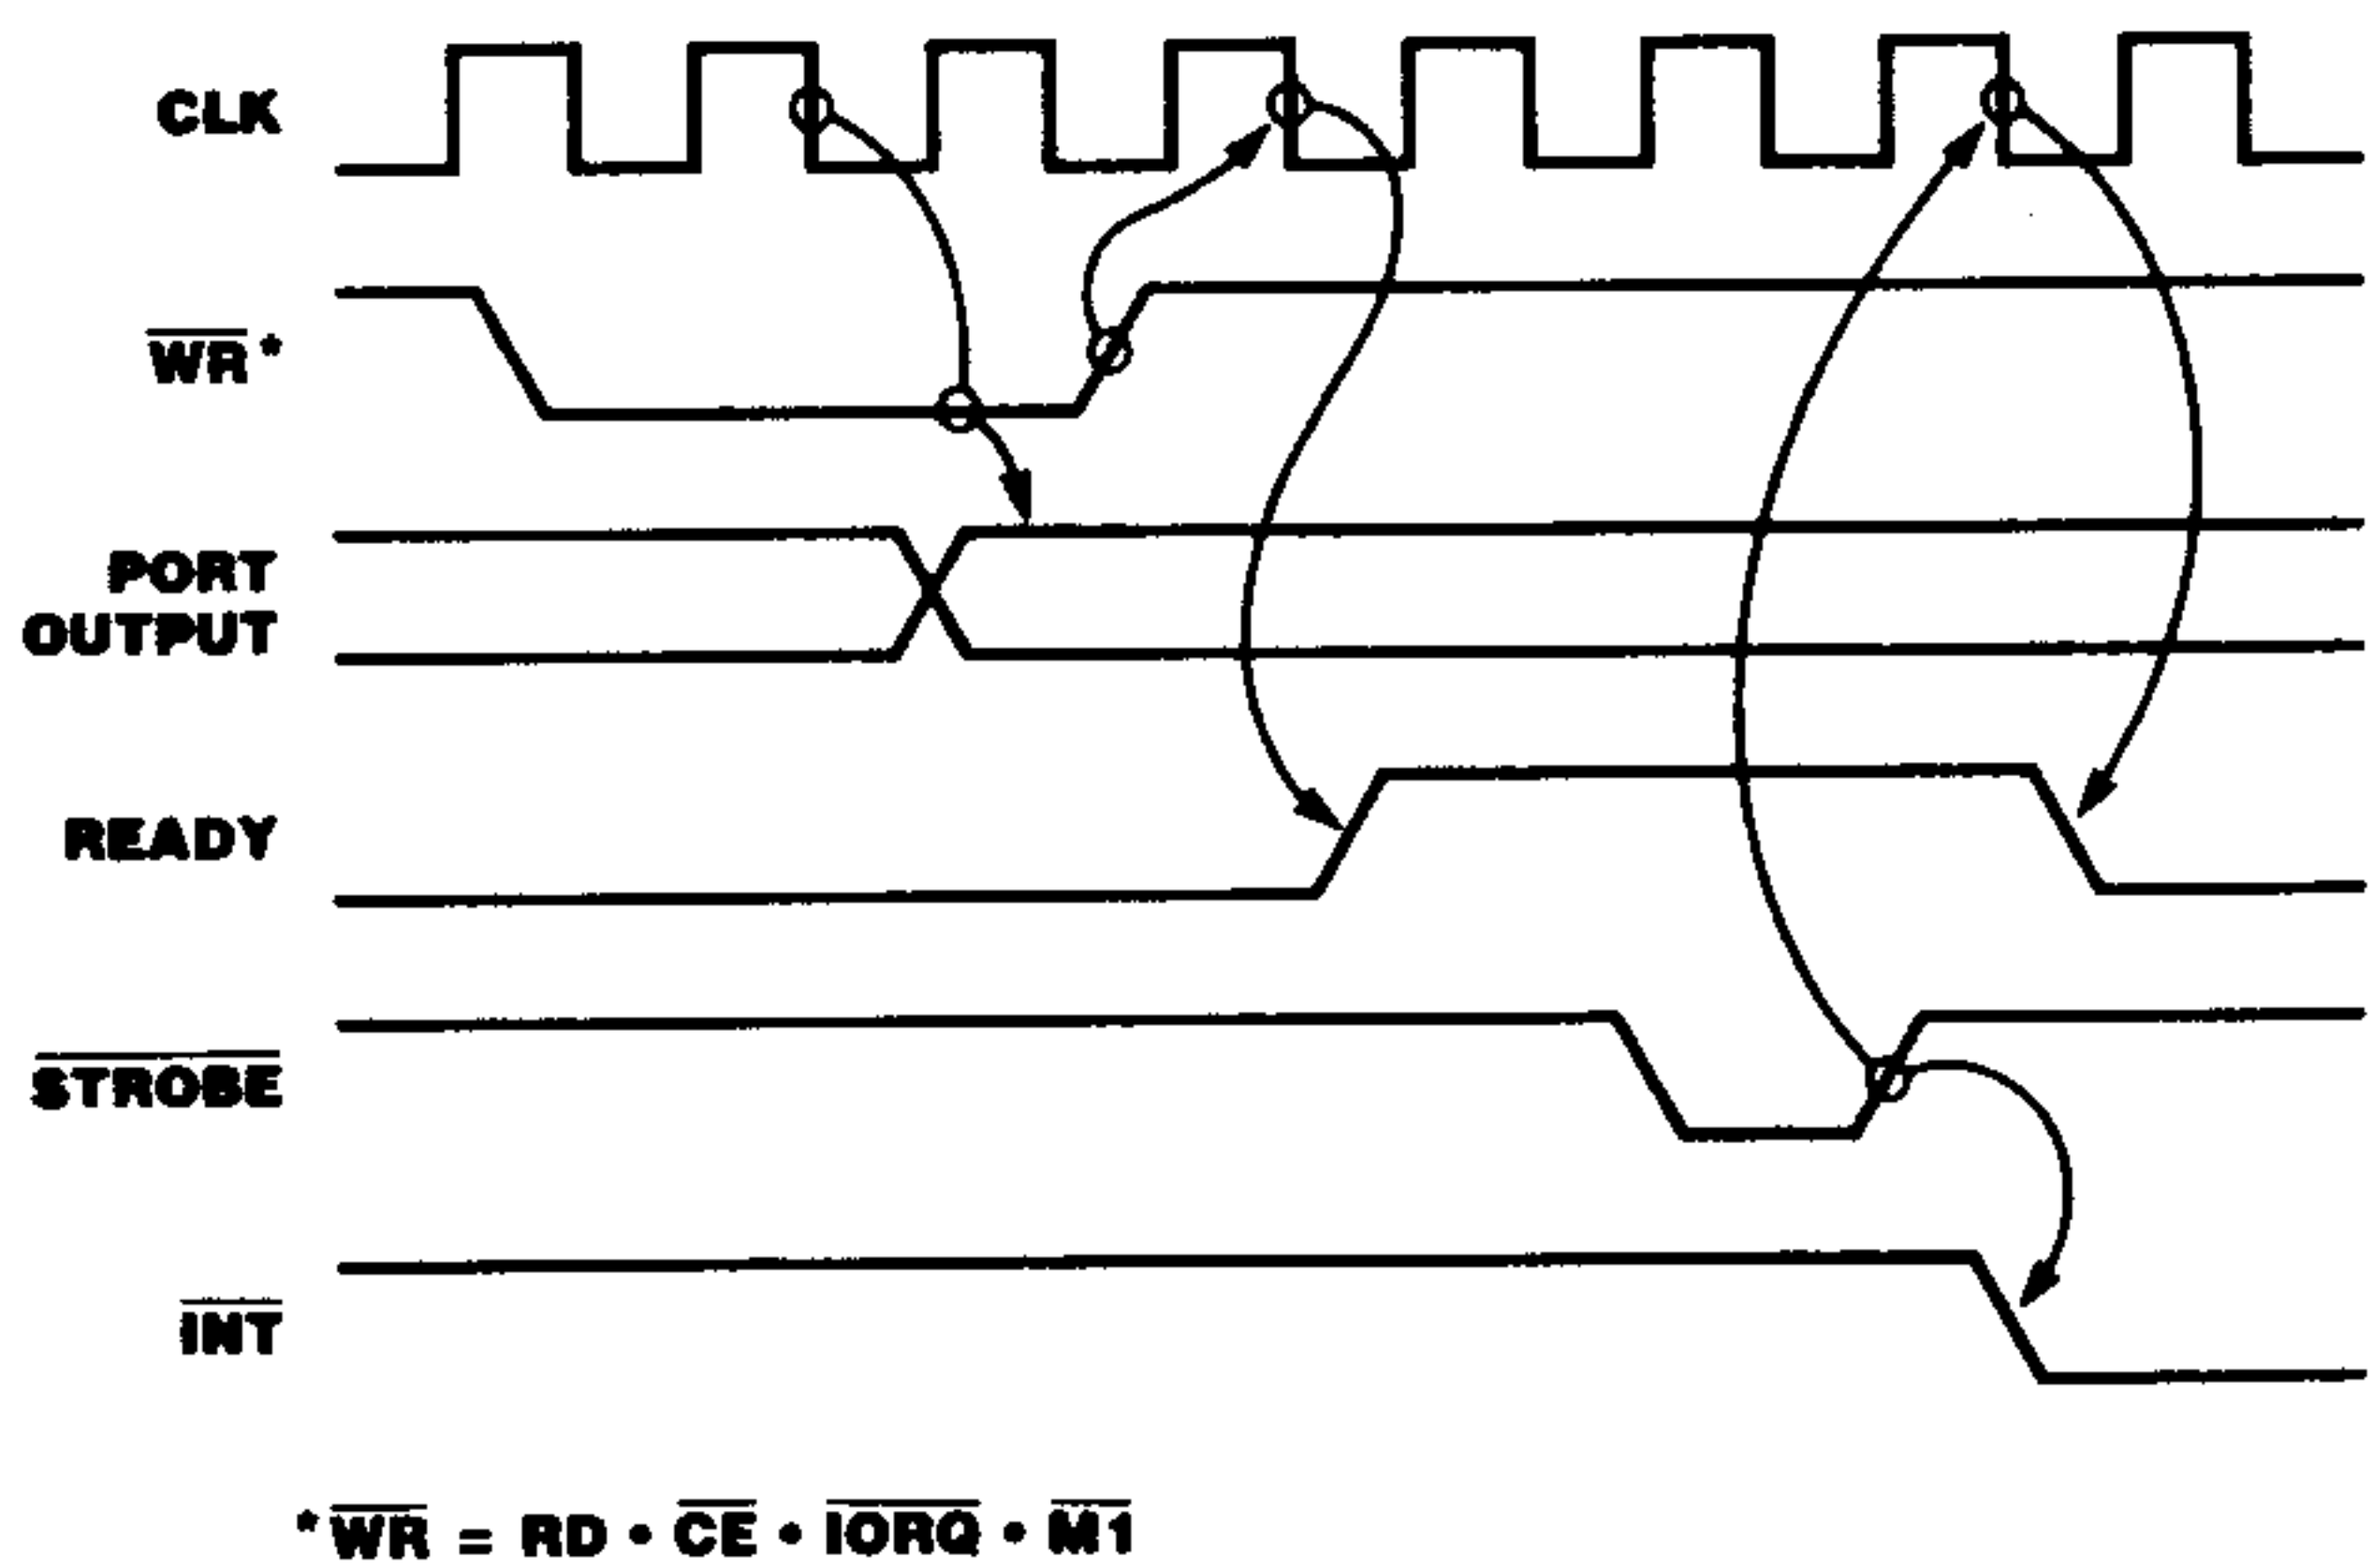

Figure 14. Mode 0 Output Timing
**Output Mode (Mode 0).** An output cycle (Figure 14) is always started by the execution of an output instruction by the CPU. The  $\overline{WR}^*$  pulse from the CPU latches the data from the CPU data bus into the selected port's output register. The  $\overline{WR}^*$  pulse sets the Ready flag after a Low-going edge of CLK, indicating data is available. Ready stays active until the positive edge of the strobe line is received, indicating that data was taken by the peripheral. The positive edge of the strobe pulse generates an  $\overline{INT}$  if the interrupt enable flip-flop has been set and if this device has the highest priority.